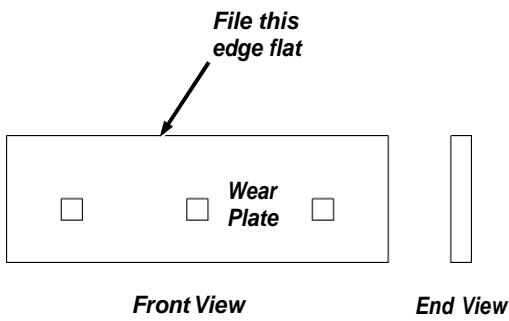

Figure 58
2. File the edge of the Wear Plate to take out any nicks and to square rounded edges (**Figure 58**).